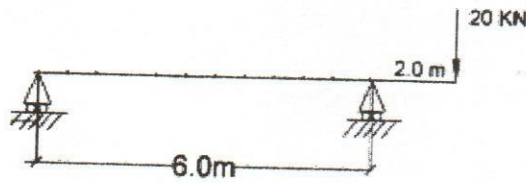

Fig.5
15. Analyze the continuous beam shown in fig 5. Take  $EI=200 \times 10^{14} \text{ KNm}^2$ . Use direct stiffness method.